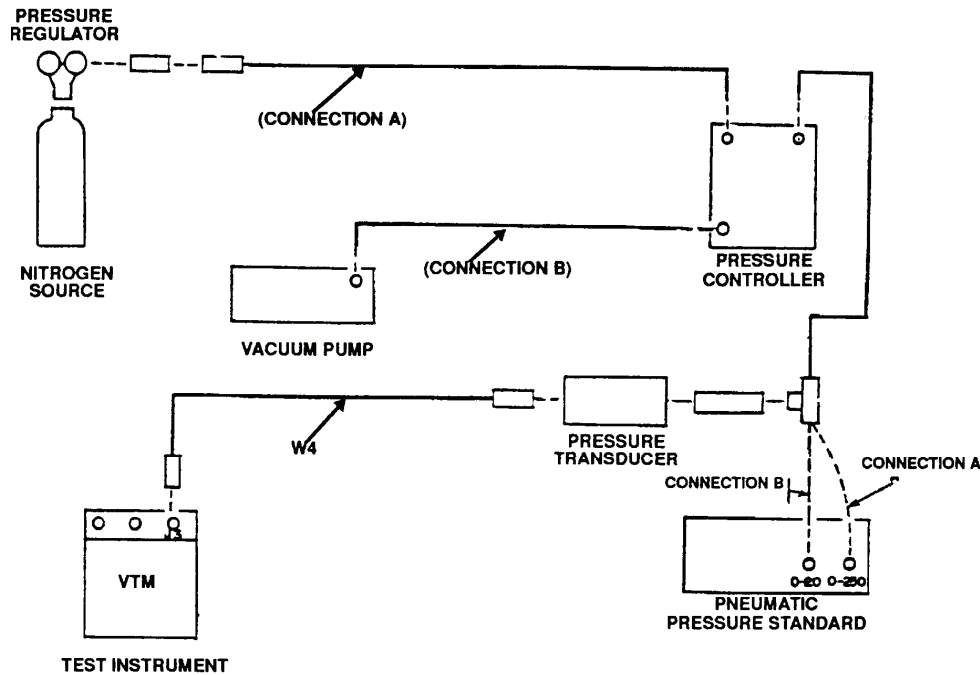

Figure 6. Pressure and vacuum (25 psi) - equipment setup.
- (2) Set **TEST SELECT** switches to **50**.
- (3) Operate hydraulic pressure standard to apply 1000 psi and return to 0 three times.
- (4) With pressure at 0, press and hold **TEST** pushbutton until **CAL** appears on VTM display. Release **TEST** pushbutton.
- (5) Wait for offset value to appear on display. Offset value will be between -150 and +150.
- (6) Press and release **TEST** pushbutton.
- (7) Operate hydraulic pressure standard to apply 1000 psi. VTM will indicate between 960 and 1040.
- (8) Operate hydraulic pressure standard to apply 200 psi. VTM will indicate between 180 and 220.
- (9) Connect equipment as shown in CONNECTION A (fig. 6), using pressure transducer TK22, -30 to +25 psig.
- (1) Connect equipment as shown in CONNECTION B (fig. 6), using pressure transducer TK22 -30 to +25 psig.
- (2) Set **TEST SELECT** switches to **45**.
- (3) Operate vacuum pump and adjust pressure controller and pneumatic pressure standard controls for 18 inHg indication and back to atmospheric pressure three times.
(4) Stop vacuum pump and, with pneumatic pressure standard indicating atmospheric pressure, press and hold **TEST** pushbutton until **CAL** appears on display. Press and release **TEST** pushbutton.
(5) Wait for offset value to appear on display. Offset value will be between -4.5 and +4.5.
(6) Press and release **TEST** pushbutton.
(7) Operate vacuum pump and adjust necessary controls for 18.00 inHg indication on pneumatic pressure standard. VTM will display between 16.9 and 19.1.